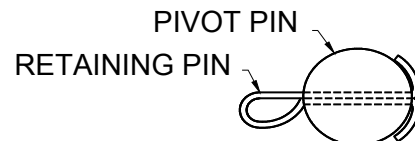

Figure 5
3. Make sure all pivot pins are in position and that all retaining pins are installed correctly (See Figures 5 and 29).